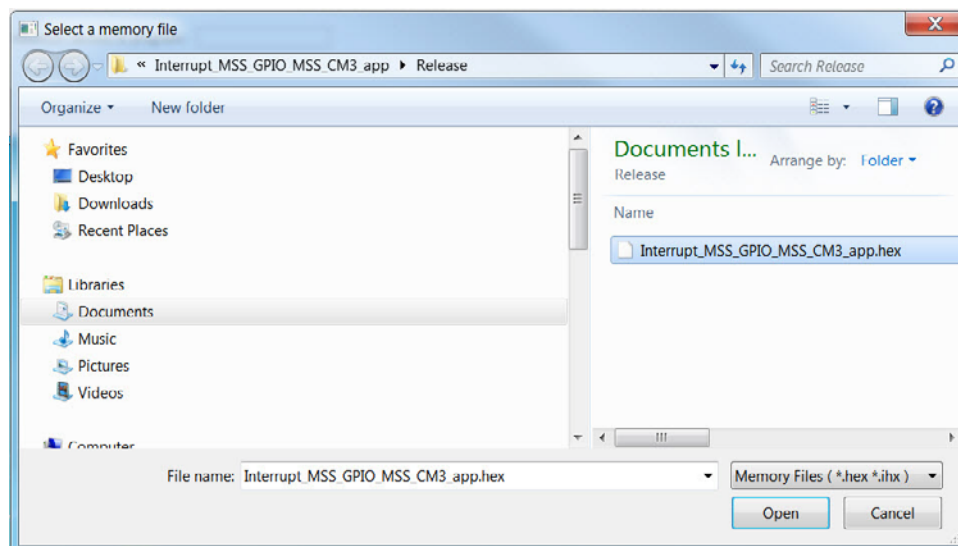

Figure 6-21 • Loading the *.hex file into eNVM Memory Content
4. Click the Browse button (second from right) to navigate to the location of the *.hex file (<SoftConsole Project Folder>..\Interrupt_MSS_GPIO_MSS_CM3_app/Release folder) created by SoftConsole when you build the Application codes. Click the *.hex file and click **Open** (Figure 6-21).